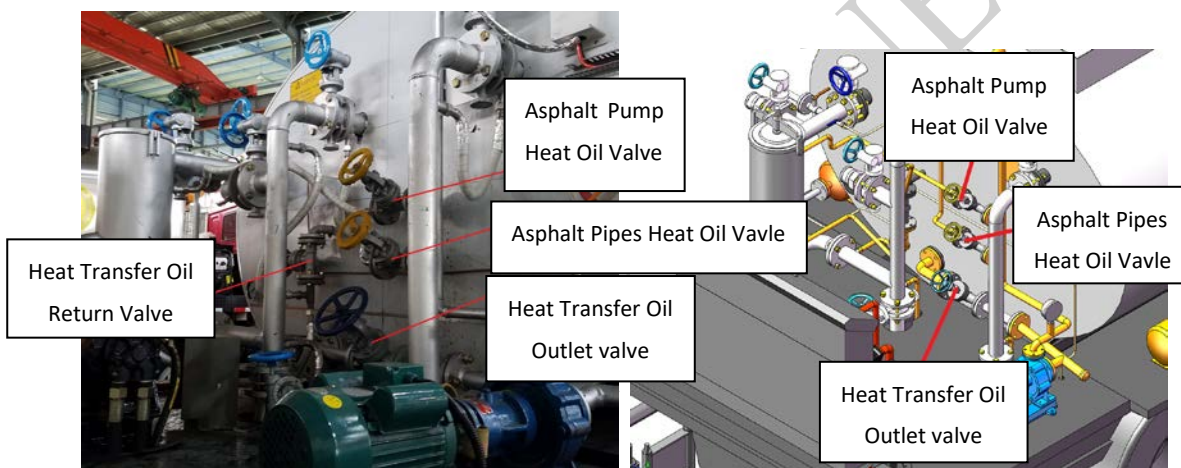

Fig. 20 Heat transfer oil valve diagram
(1) Open the heat transfer oil inlet valve, the heat transfer oil outlet valve, and close the other heat transfer oil valves, as shown in Figure 20.